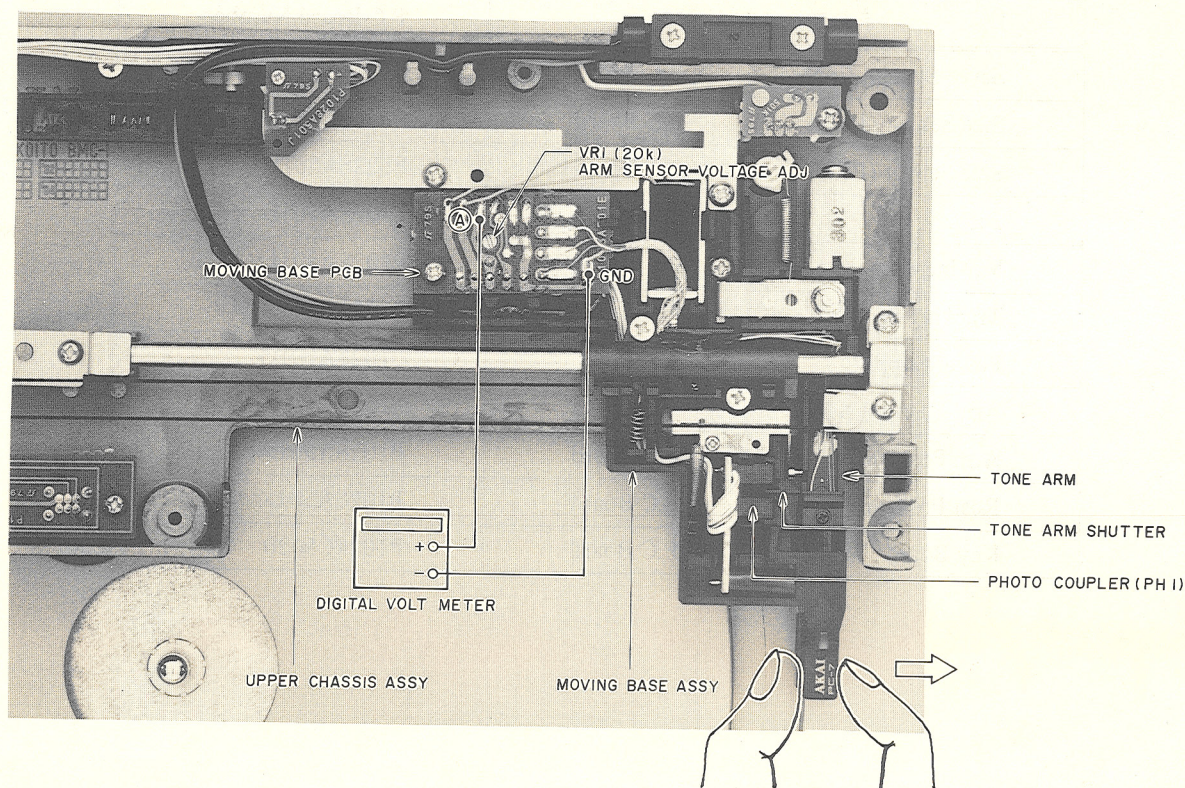

Fig. 7-1 Inside View of Moving Base Block
### 7-1. ARM SENSOR VOLTAGE ADJUSTMENT (Refer to Fig. 7-1)
- 2) Connect a digital voltmeter between the point (A) and ground. Move the Tone Arm by hand in the direction as shown in Fig. 7-1 to move the Tone Arm Shutter out of the photocoupler, and adjust VR1 on